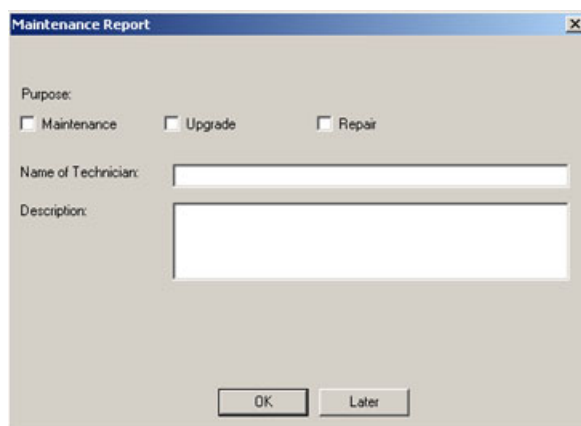

Figure 4-41 Maintenance Report
**NOTE:** After Hardware or Software modifications normally the "Maintenance Report" message box (Figure 4-41) appears automatically on the screen.